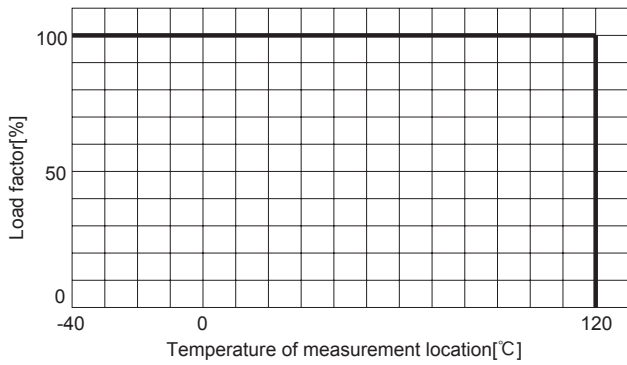
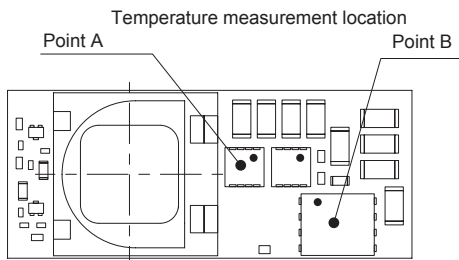
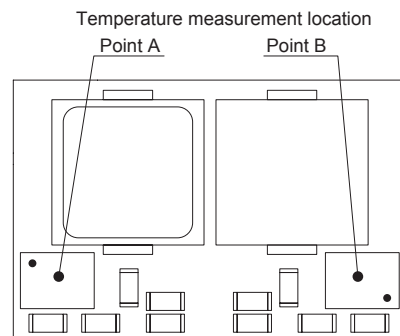

Fig.8.1 Derating curve
Fig.8.2 Temperature measurement location (BRFS30)
Fig.8.6 Temperature measurement location (BRFS60 · BRDS60)
■Make sure the temperatures measurement locations shown from Fig.8.2 to Fig.8.6 below are on or under the derating curve in Fig.8.1.